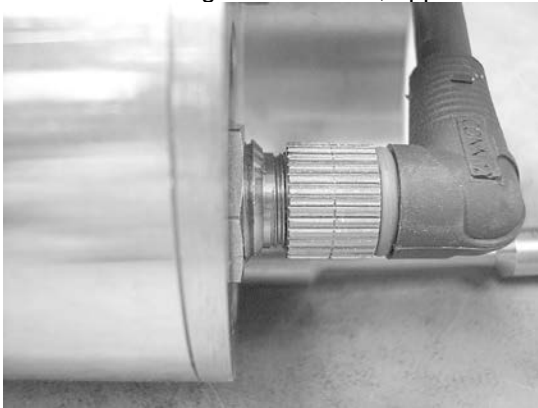

Figure 3- HD300 and HD300-1
4. Continue alternating between pressing in and tightening the nut until the connector is fully seated. As shown in Figures 3 and 3a, approximately 1-2 threads will be visible when seated.